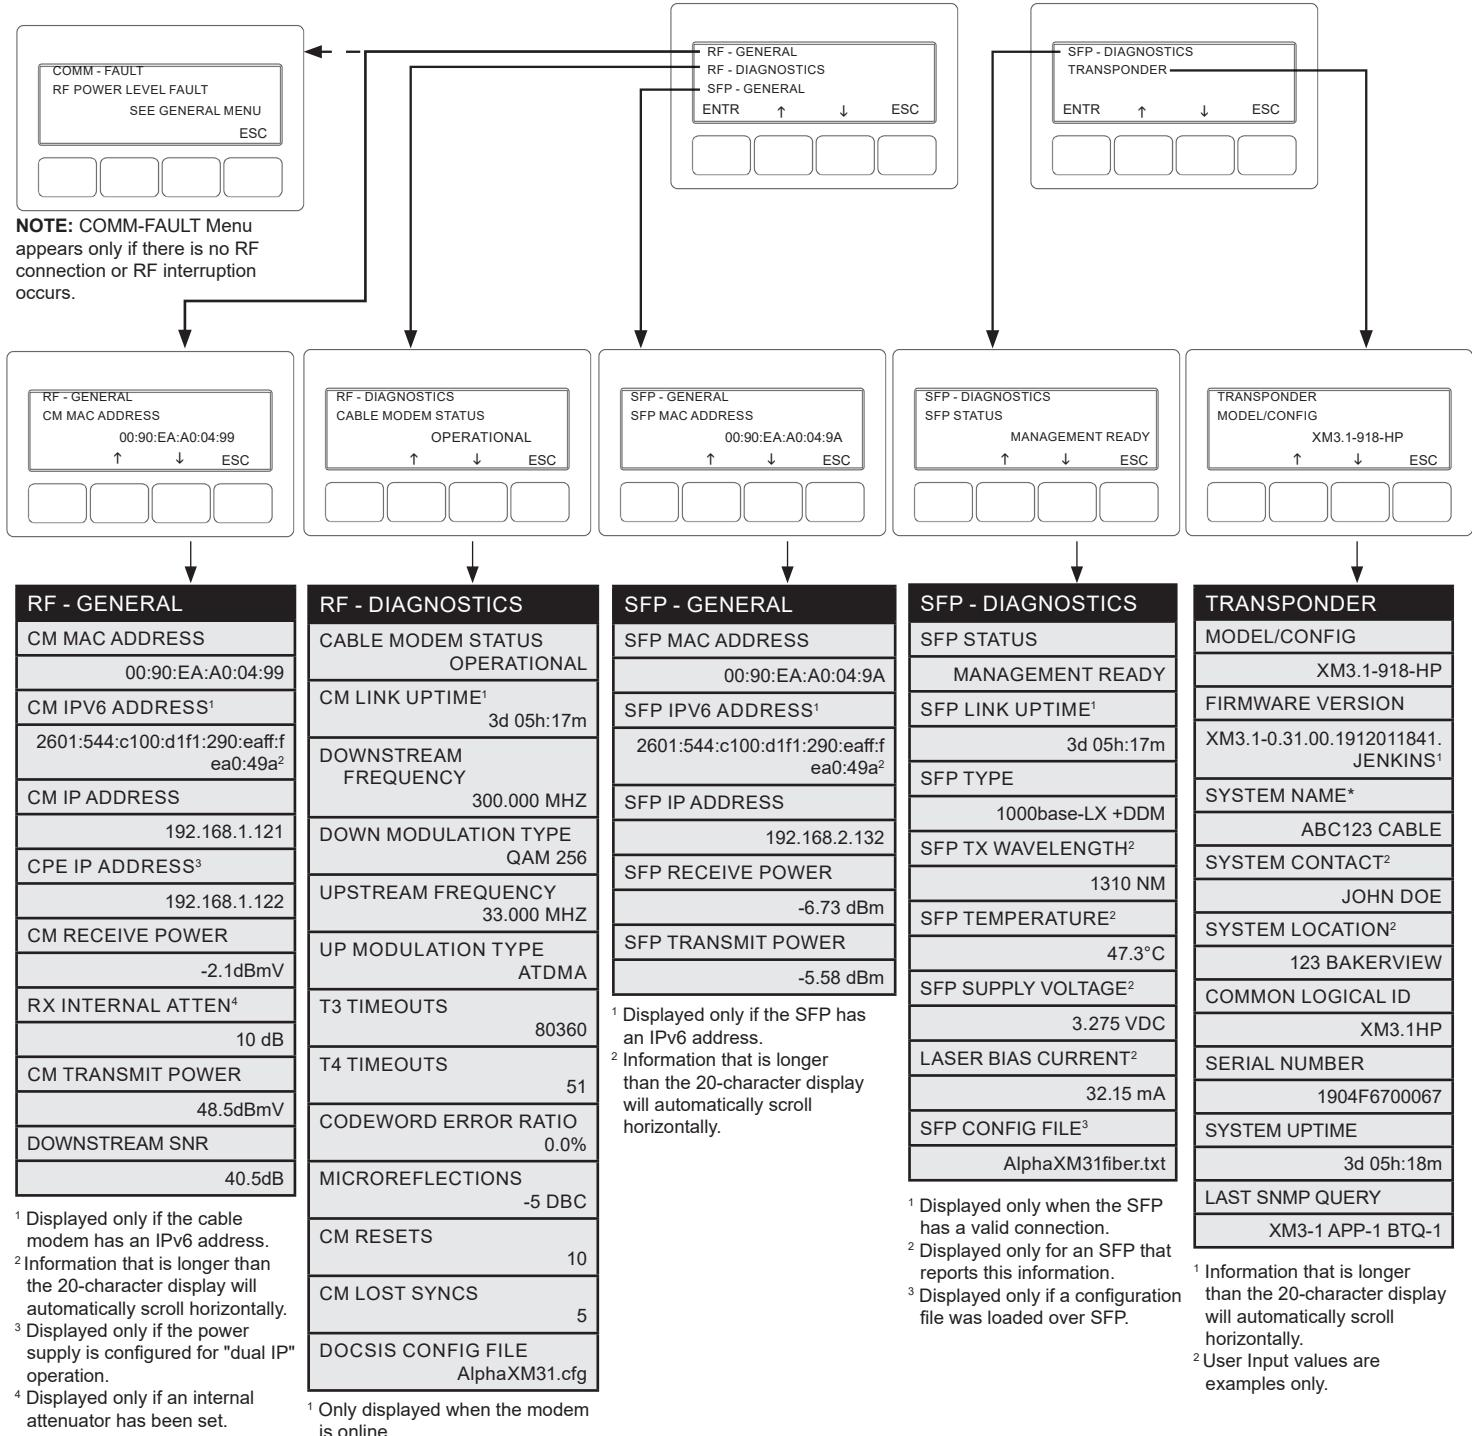

Fig. 2-11, COMM Menu Options
With the CMM used in conjunction with the XM3.1-HP power supply, network connectivity can be verified via the COMM menu on the XM3.1-HP Smart Display. Figure 2-11 provides a list of parameters available on the XM3.1-HP Smart Display populated with sample values.
4. The transponder's web server home page will appear (Fig. 2-11). **Note: For the Cable Modem Module, this may take up to a minute when the CMM is initially powered up.**